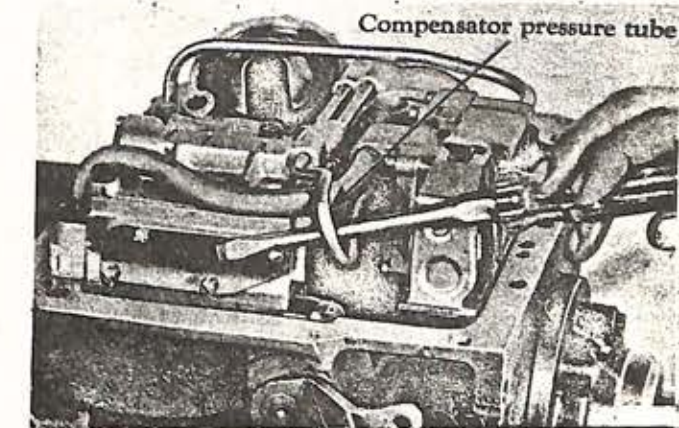

Fig. 23
2. Remove the small compensator pressure tube (Fig. 23). **NOTE:** When prying out tubes, exercise care not to distort or bend the tubes.